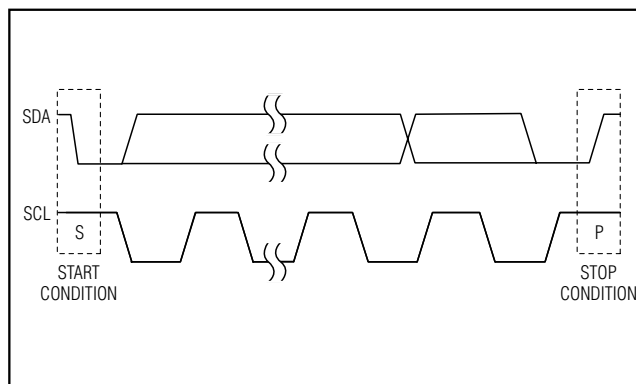
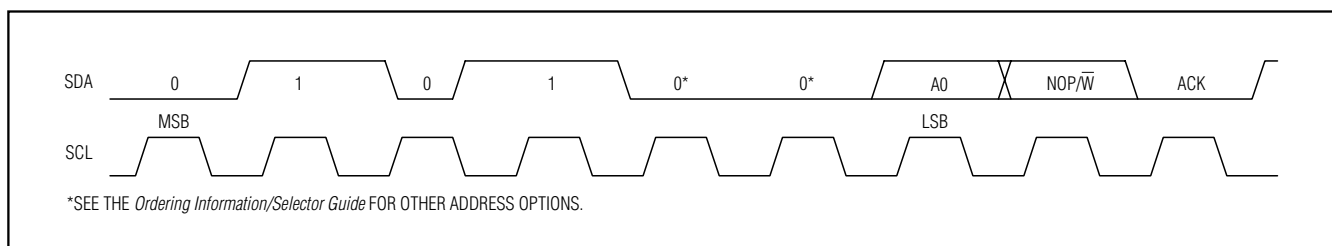
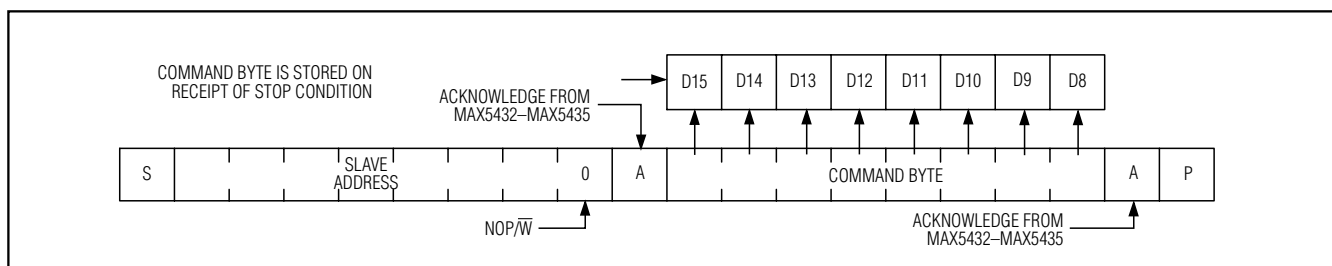

Figure 3. Start and Stop Conditions
Figure 4. Slave Address
Figure 7. Command Byte Received
Each transmission consists of a START (S) condition (Figure 3) sent by a master, followed by the MAX5432–MAX5435 7-bit slave address plus the 8th bit (Figure 4), 1 command byte (Figure 7) and 1 data byte, and finally a STOP (P) condition (Figure 3).
high while SCL is high. The bus is then free for another transmission (Figure 3).
The MAX5432-MAX5435 have a 7-bit-long slave address (Figure 4). The 8th bit following the 7-bit slave address is the NOP/ \overline{W} bit. Set the NOP/ \overline{W} bit low for a write command and high for a no-operation command.